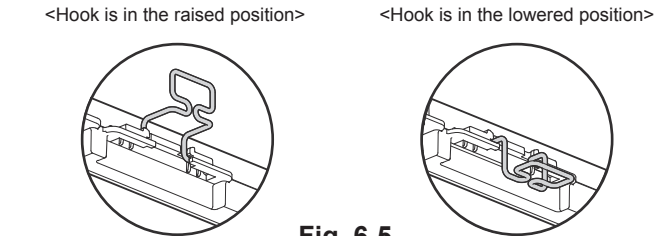

Fig. 6-5
6.4.1. Preparations (Fig. 6-5)